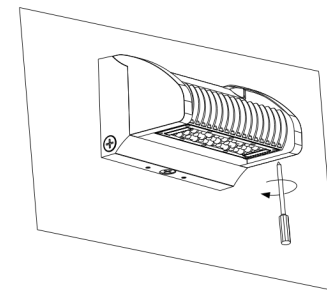

Figure 1-6
- 6.After installation, tighten the screws. (Figure 1-6)